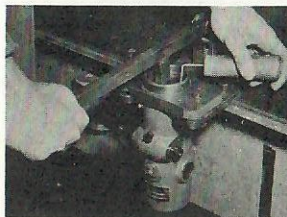

FIG. 61-1
2. Press down on the plunger guide cup and insert a piece of rod in the hole provided for this purpose on the side of the pump housing fit, Fig. 61-1. This will hold the plunger guide cup down.